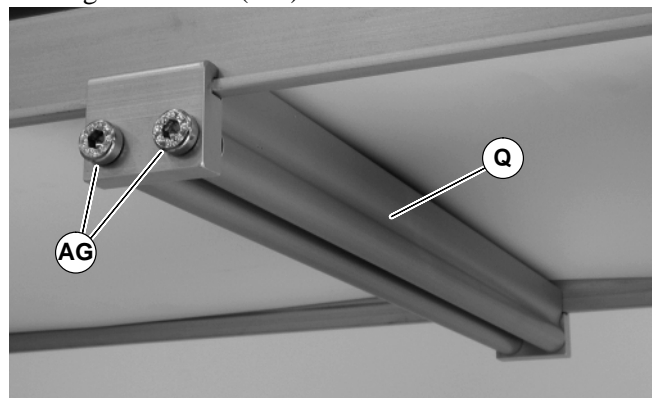

Figure 16
3. Install roller assembly as shown (Q of Figure 16). Tighten screws (AG) to 7 Nm.